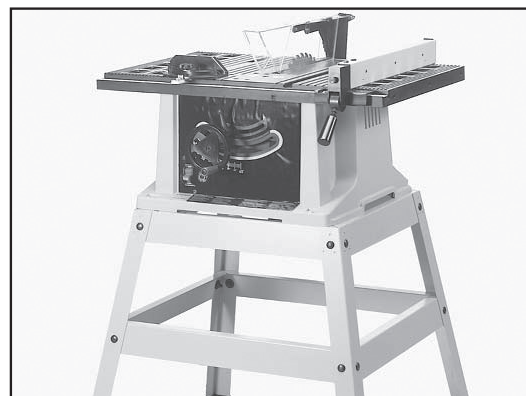

Fig. 4D
3. Stand the saw upright, as shown in Fig. 4D (Saw is shown fully assembled here).